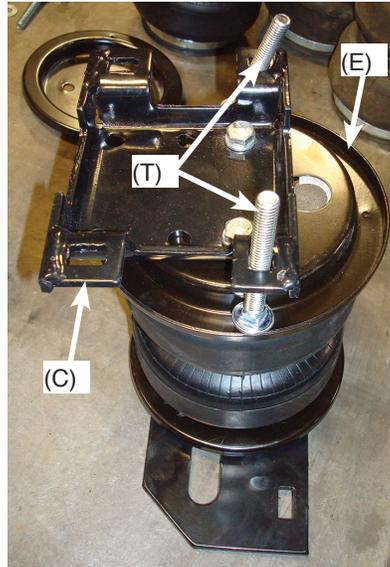
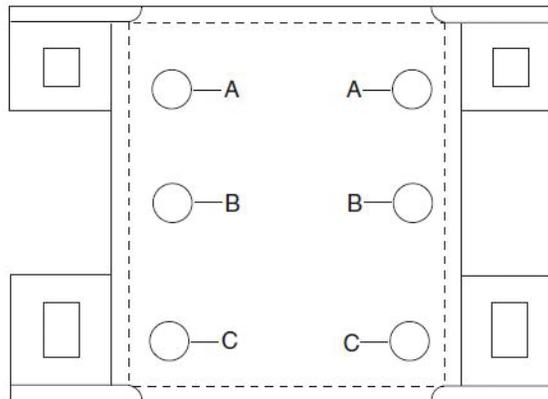

fig. 9
fig. 10
1. Flip the assemblies over; set a Roll Plate (E) onto the bottom of the Air Spring assembly (fig. 9).
2. Insert two 3/8-16 X 3.0" Carriage Bolts (T) into the lower bracket as shown and set the Lower Bracket (C) using holes "A" (fig. 10) so that the lower bracket is offset from the fitting (on the opposite (top) end of the assembly) (fig. 9). Attach the lower bracket with 3/8 Lock Washers (U) and two 3/8-24 X 3/4" Hex Bolts (V). Torque to no more than 20 lb.-ft.